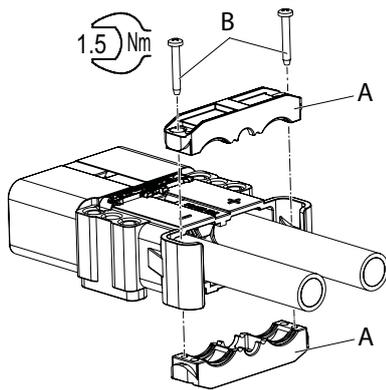

Fig. 25:
Recommendation: Before tightening the strain relief screws (Fig. 25/B), connect the charger/vehicle plug to a battery socket and only then tighten the strain relief screws of the plug. This will result in alignment of the main contacts.
1. Position the upper and lower clamp (Fig. 25/A) of the strain relief on the cable.
3. Using a PH2 crosshead screwdriver, uniformly tighten the clamps (A) using both screws (B). In doing so, ensure
- that both screws (B) are uniformly tightened,
- that the clamps (A) are not tilted or skewed.
4. Tighten both screws (B) to a torque of 1.5 Nm.